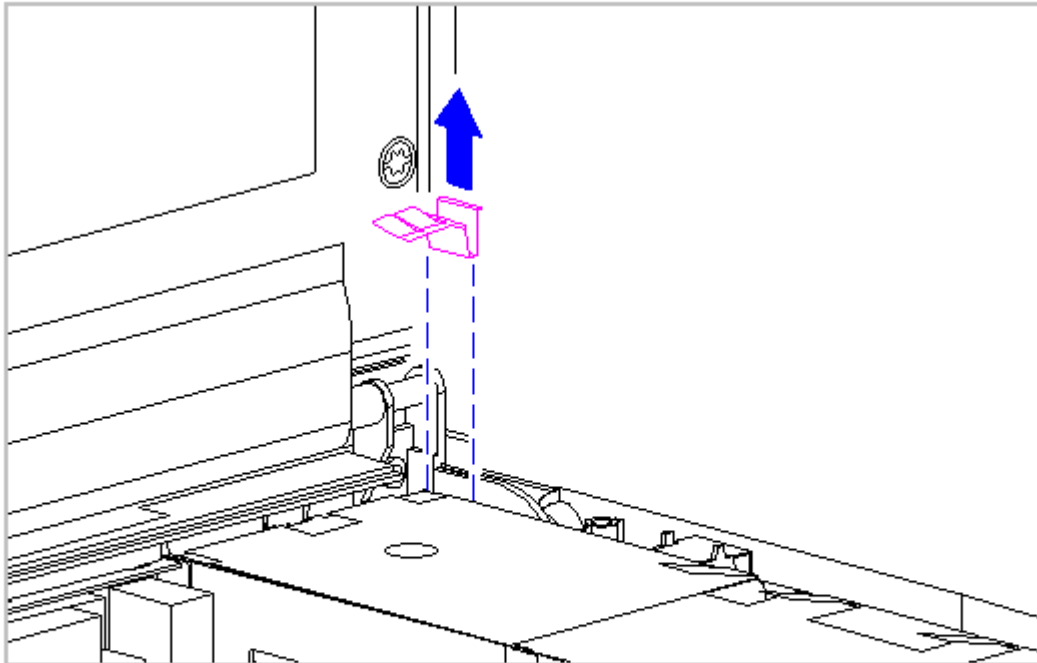

Figure 5-125. Removing the Right Clutch Ground Clip
4. Remove the right clutch ground clip located between the clutch and the CPU base (Figure 5-125).